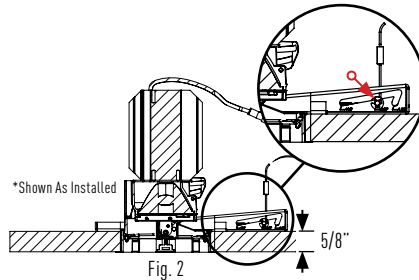

Fig. 2
- 5/8" setting for single 5/8" sheet rock (Fig. 2) (Note: 5/8" maximum ceiling thickness)